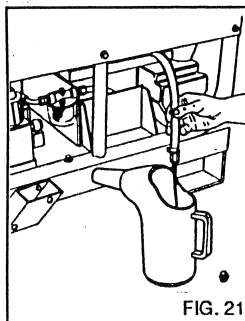

FIG. 21
- 1) Pull out the oil discharge hose A (fig. 21).
- 2) Remove the cap of the hose B (fig 21).